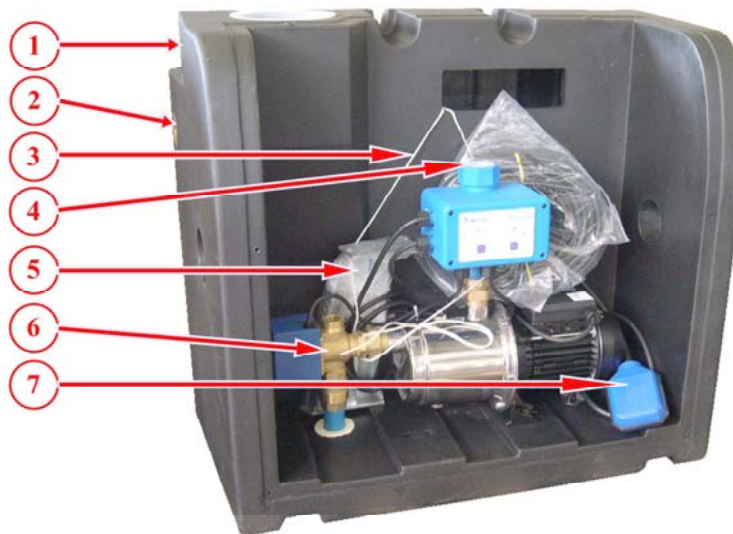

Figure 1: RainFlow Drinking water's reservoir
Position the unit on a vertical surface capable of holding aprox 60kg). 2 shelves and the relative screw expansion are furnished, for the fixing to wall (Fig.1 rif. **5**). Verify the horizontal and vertical levels .
1. To remove the thread of fixing for the transport of the flow and the stirrups to wall (Fig.1 Rif. **3**).
2. To connect the suction pipeline of the reservoir of collection Rainwater of it, endowed with ground valve or non-return valve, to the solenoid valve in three ways (screw 1" male Fig.1 Rif. **6**).
3. To connect the delivery side of RainFlow (screw 1"1/4 female Fig.1 Rif. **4**) to the user system. To prevent damage caused by vibration we recommend the use of a flexible pipe), three pieces cross and a manometer.
4. To connect the filling float of the drinking water reservoir to the hydraulic net (screw 1" male Fig.1 Rif.**1**).
5. To connect the over flow (screw 1" female Fig.1 Rif. 2) with pipeline suited to get through the water in case that the inside level to the reservoir climbs over the allowed limits.
6. To install the float (Fig.1 Rif. 7) in the Rainwater reservoir positioning the counterweight to the correct distance, to get the contact point to the desired levels and to verify that there are no obstacles to the movement. To the necessity, it is possible to disconnect the wires from the electric system, to effect the laying of the cable and to connect him (see par. 2.3.4 Float and Clock connection).